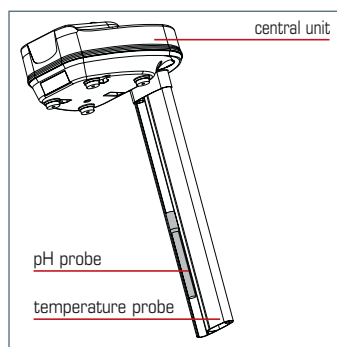

fig.4 - Confort™
- remove the pH probe from its housing (fig. 4), taking care not to pull on the wire or lose the black rings